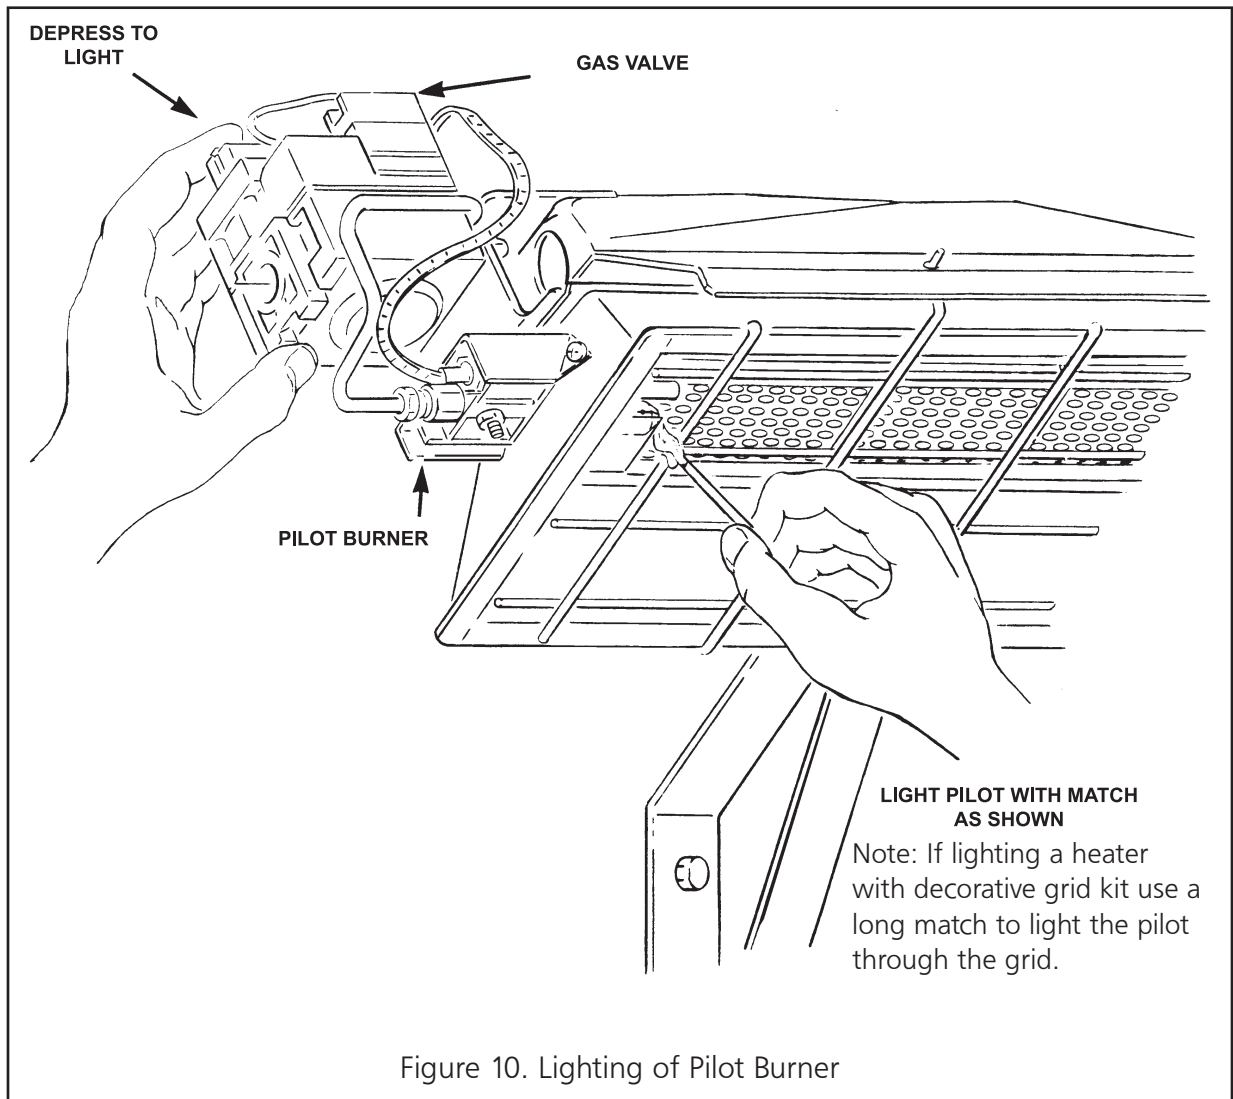

Figure 10. Lighting of Pilot Burner
- F. Depress the manual gas control knob. Using a match, light the pilot light. If lighting a heater with decorative grid kit use a long match to light the pilot through the grid. See Figure 10. Hold the knob down for approximately 30 seconds to allow any air in gas lines to pass through pilot and, once pilot is lit, allow the thermocouple to heat up enough to activate the safety valve in an open position.